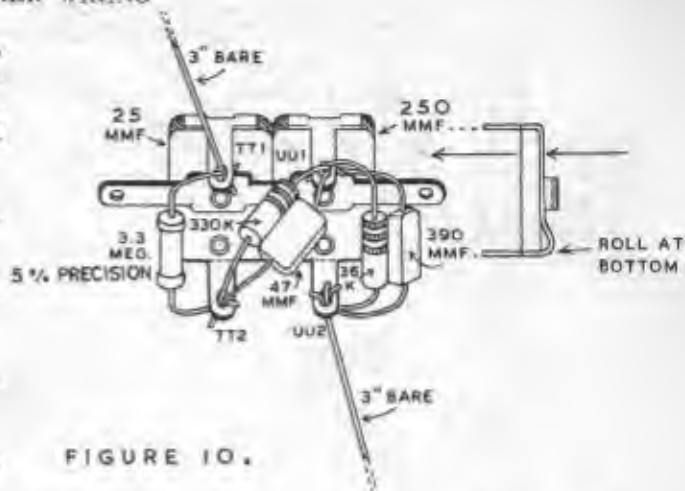

FIGURE 10.
- ( ) Identify the dual trimmer assembly by reference to Figure 10. Position the part so that the roll of the trimmer plates is down, as shown in the Figure. Connect a 3.3 megohm 5% precision resistor from TT1 (NS) to TT2 (NS).
- ( ) Connect a 330 K $\Omega$  resistor (ORANGE, ORANGE, YELLOW) from TT2 (NS) to UU1 (NS).
- ( ) Connect a 47 pF mica capacitor from TT2 (NS) to UU1 (NS).
- ( ) Connect a 36 K $\Omega$  resistor (ORANGE, BLUE, ORANGE) from UU1 (NS) to UU2 (NS).
- ( ) Connect a 390 pF mica capacitor from UU1 (NS) to UU2 (NS).